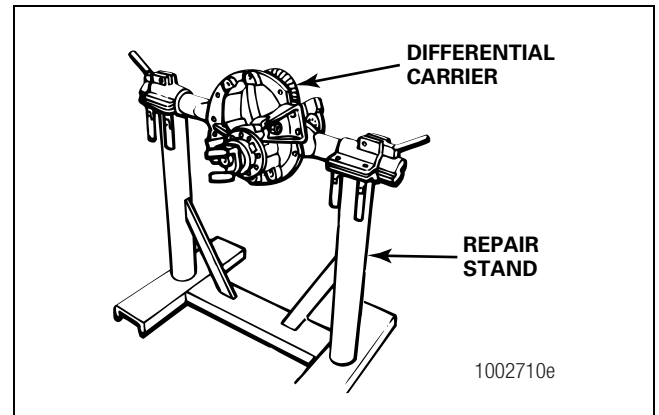

Figure 3.18
7. Use a lifting tool to lift the differential carrier by the input yoke or flange and place the assembly in a repair stand. Figure 3.18. Do not lift by hand. A carrier stand can be built by referring to Section 9.